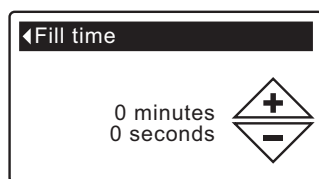

FIG. 57
6. If the desired language already has a black dot next to it (See Figure 57), go to Step 7. Otherwise, press the DOWN (▼) or UP (▲) buttons to scroll to the desired language, then press SELECT (O) to choose it. The choices are: English, Spanish, French, Italian, German, Dutch, Polish, Russian, Hungarian, Turkish, Lithuanian, Greek, Romanian, Czech, Slovak, Bulgarian, Serbian or Croatian.
- 8a. Fill time:** Press the UP (▲) or DOWN (▼) buttons to change the fill time. Hold the button down to rapidly advance. The fill time can be set from 0:00 to 99:59 minutes (See Figure 57).